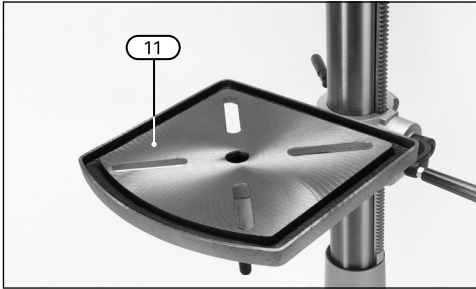
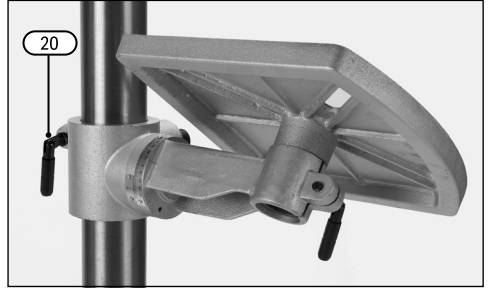

Fig. 16
Fig. 19
- To switch the machine on, press the green '**ON**' (I) button.
- To switch the machine off, press the red '**OFF**' (O) button.
7.4 Worktable Adjustment (Fig. 16 – Fig. 19)